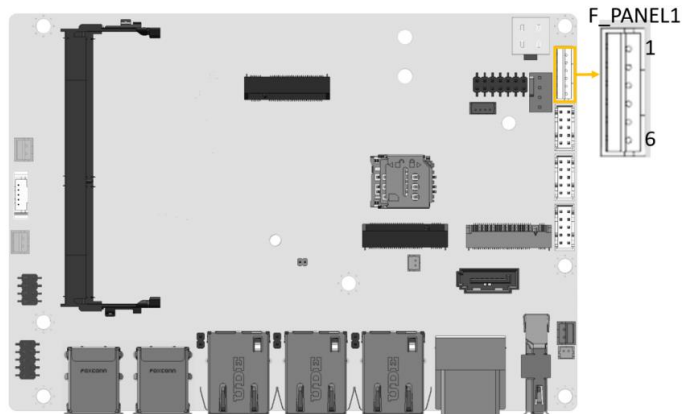

Figure 4-5: Front Panel Connector Location
- CN Location:** See **Figure 4-5**